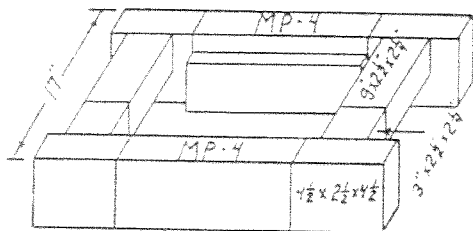

FIG. 3
6. Mortar 3rd layer bricks in place, see Fig. 3. Center MP-4 bricks between burner bricks and maintain 17" outside dimension. Use dip joints, set balance of brick in Fig. 3 in place.